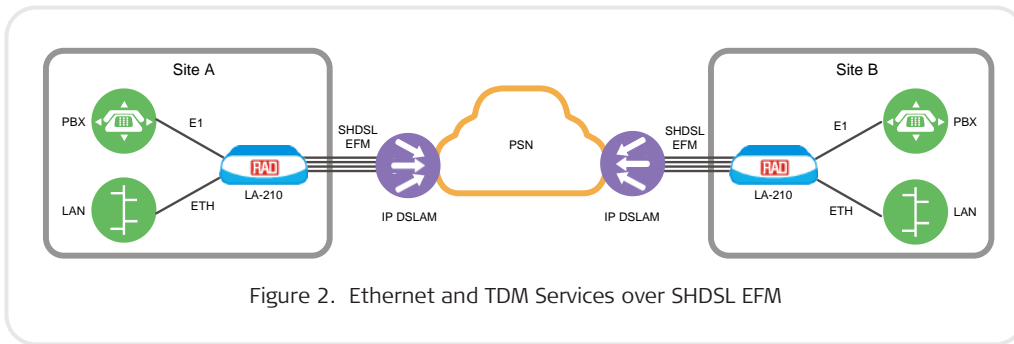

Figure 2. Ethernet and TDM Services over SHDSL EFM
- EVPL – Site-to-site connectivity over shared bandwidth with service multiplexing (see Figure 2).